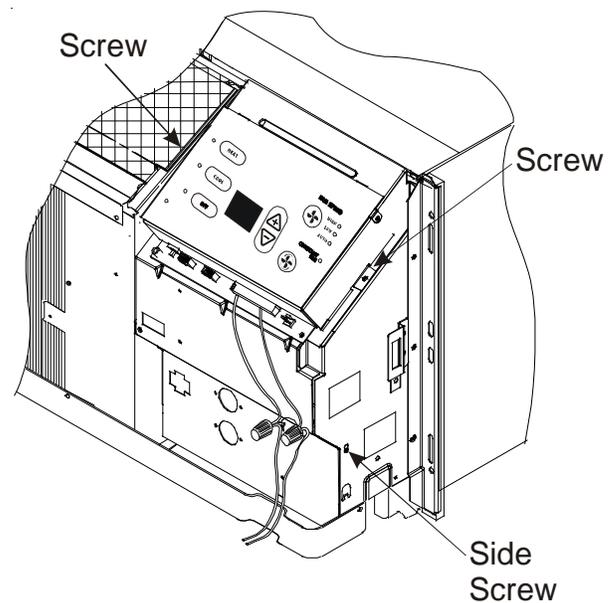

Figure 10
19. To gain access inside the control panel, remove the control cover and touch pad (2 screws). Remove the side screw holding the panel in position. Tilt the control panel forward, being careful not to pinch any wires (Figure 10).
20. Lift the control panel up so the control panel is free of its hinges. Orient the control panel so there is easy access for mounting components to the control panel (Figures 10 and 11).